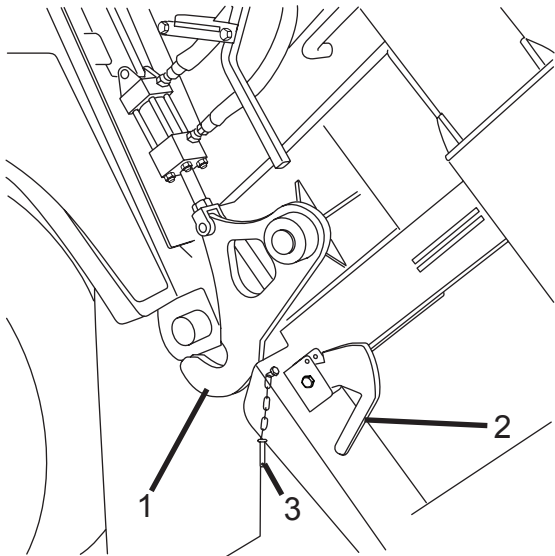

Figure 20
2. Push and hold the tailgate lock control lever to lock the tailgate lock (Figure 20, Item 1).
3. Move the latch (Figure 20, Item 2) back against the lock and install the pin (Figure 20, Item 3) in the latch. Repeat this step for the other side.